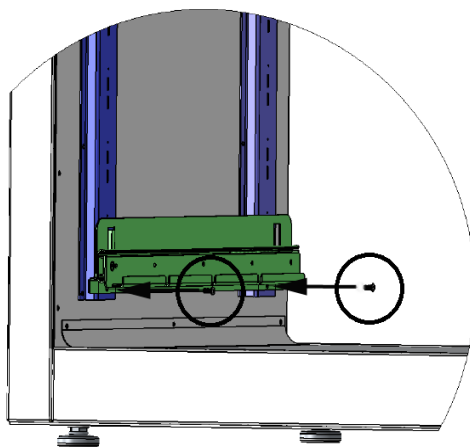
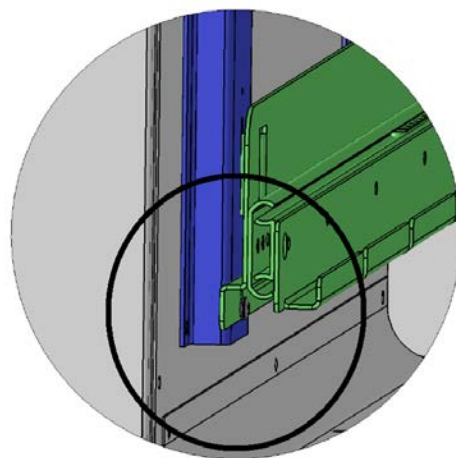

Figure 12: Sliding Mounting Bracket Screws
Figure 13: Sliding Mounting Bracket Front Screw Installed
3. Screw in the included screws on the front and back of the flange located on the bottom of the bracket. See Figure 13 and Figure 12.